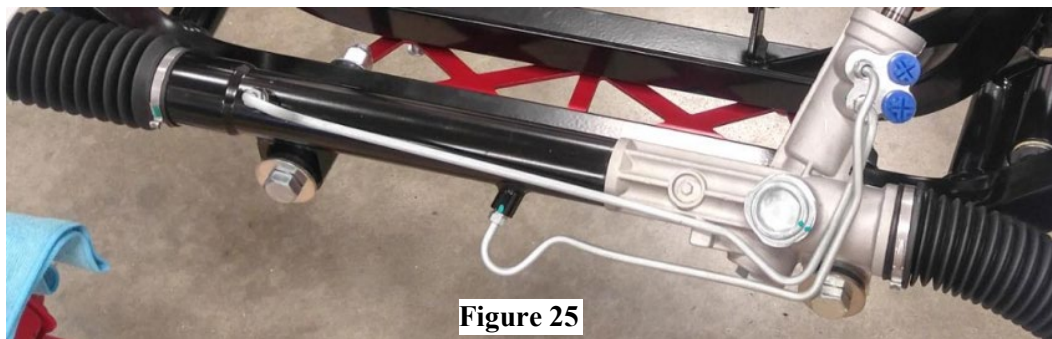

Figure 25
24. The included steering rack is an OE type '79-'93 Mustang. Attach steering rack to lower cross-member using 5/8" x 5.5" bolts (#20), one .120" thick washer (#19) under bolt head, with 5/8" SAE washers (#22) and nylock nut (#23). **(Figure 25)**